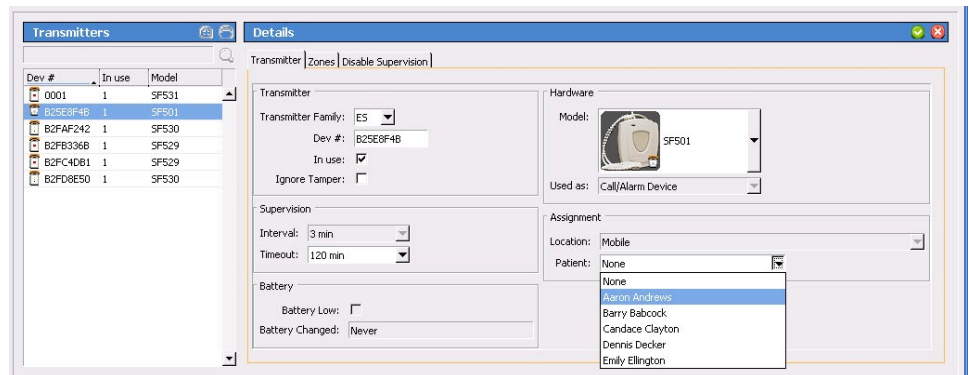

Figure 43: Event Monitor Pendant Transmitter Assignment
2. Choose **Transmitters** from the registers list, and select the pendant transmitter to be assigned to a patient from the list of transmitters as shown in Figure 43.